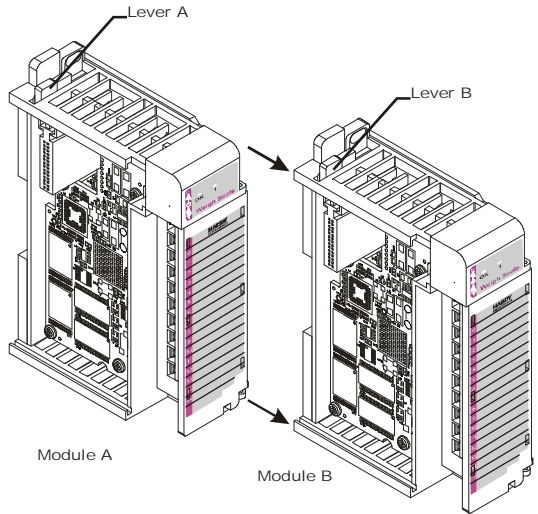

FIG. 3-1 POSITIONING THE MODULE FOR INSTALLATION
- Step 1. Make sure that the module is oriented correctly for installation. (See Fig. 3-1)